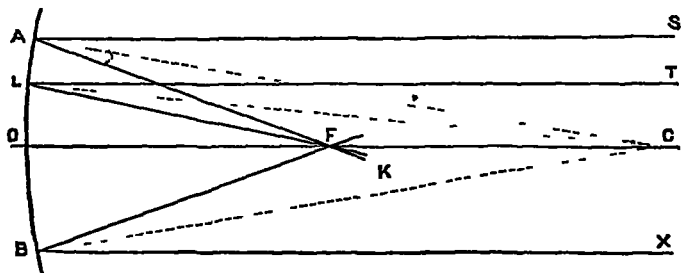

FIG 76
Suppose that  $AB$  (fig 76) is the section of a concave mirror,  $C$ , the centre of the sphere, is called the centre of curvature,  $O$  the apex, and  $CO$  the principal axis. A very small portion of the mirror at any point  $A$  will be a plane, of which  $AC$ , the
**The positions of the object and the image**—From fig 76 we see, that if a luminous point be at  $c$ , all rays will be normal to the mirror, and therefore will be reflected back to  $c$ . When the object is at the centre of curvature, the image will be at the centre of curvature.